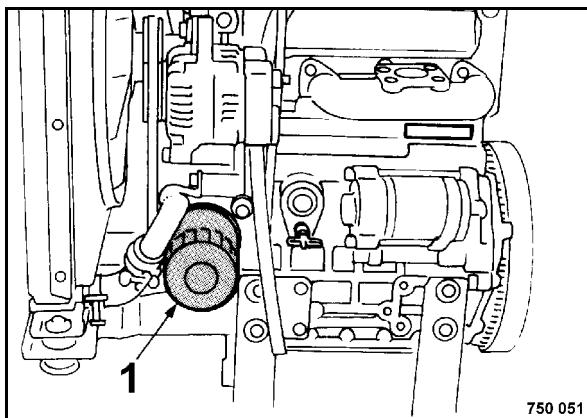

Fig. 96
- Unscrew the filter cartridge (1) (Fig. 96) using an appropriate filter wrench.